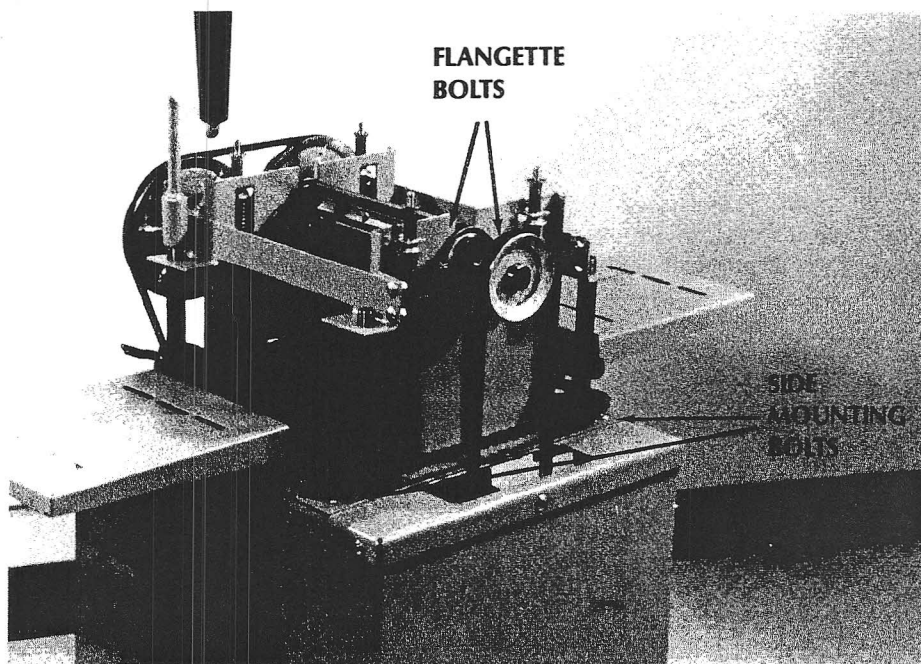

Fig. 12
11. Remove bolts connecting the bottom of the RB-80 sides to RB-184 base. (fig. 12)